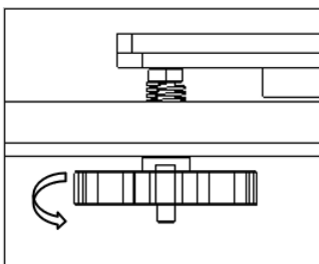

Fig 1
Step 2: Tighten the hand nuts under the bed to move down the bed to the lowest position (Fig 1).